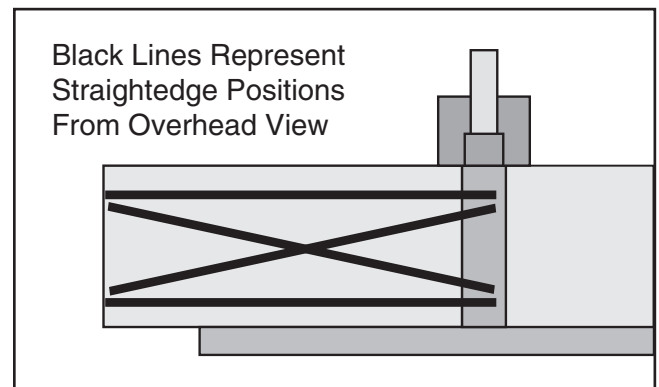

Figure 46. Straightedge positions for verifying if outfeed table is parallel with cutterhead.
6. Place the straightedge in the positions shown in **Figure 46**. In each position, the straightedge should touch the cutterhead body and sit flat on the outfeed table.
4. Place the straightedge in one of the positions shown in **Figure 46**, and adjust the table by turning the eccentric bushings (**Figures 51 & 52**) as needed with an adjustable wrench so that the straightedge touches the cutterhead while lying flat across the outfeed table. Repeat this step with each of the remaining straightedge positions as many times as necessary until the outfeed table is parallel with the cutterhead to within 0.010"-0.012".